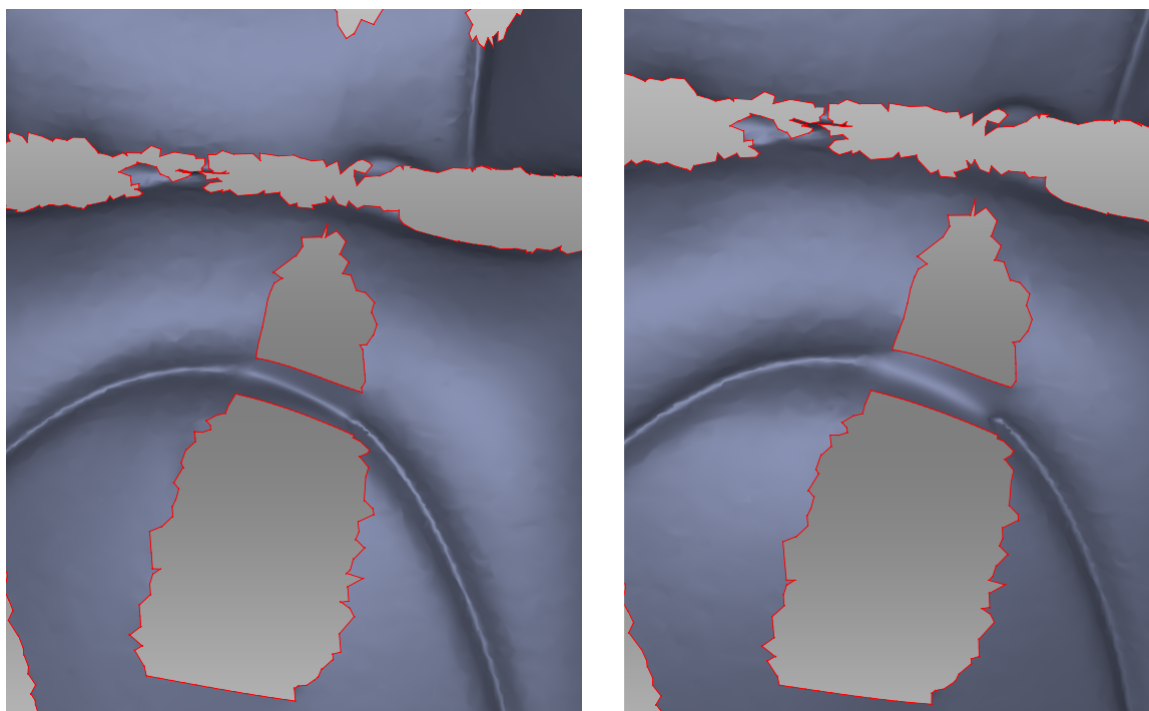

Figure 103: Small smoothness values on left and maximum on right.
- Use small or medium values of the *Bridge smoothness* slider (Figure 103).